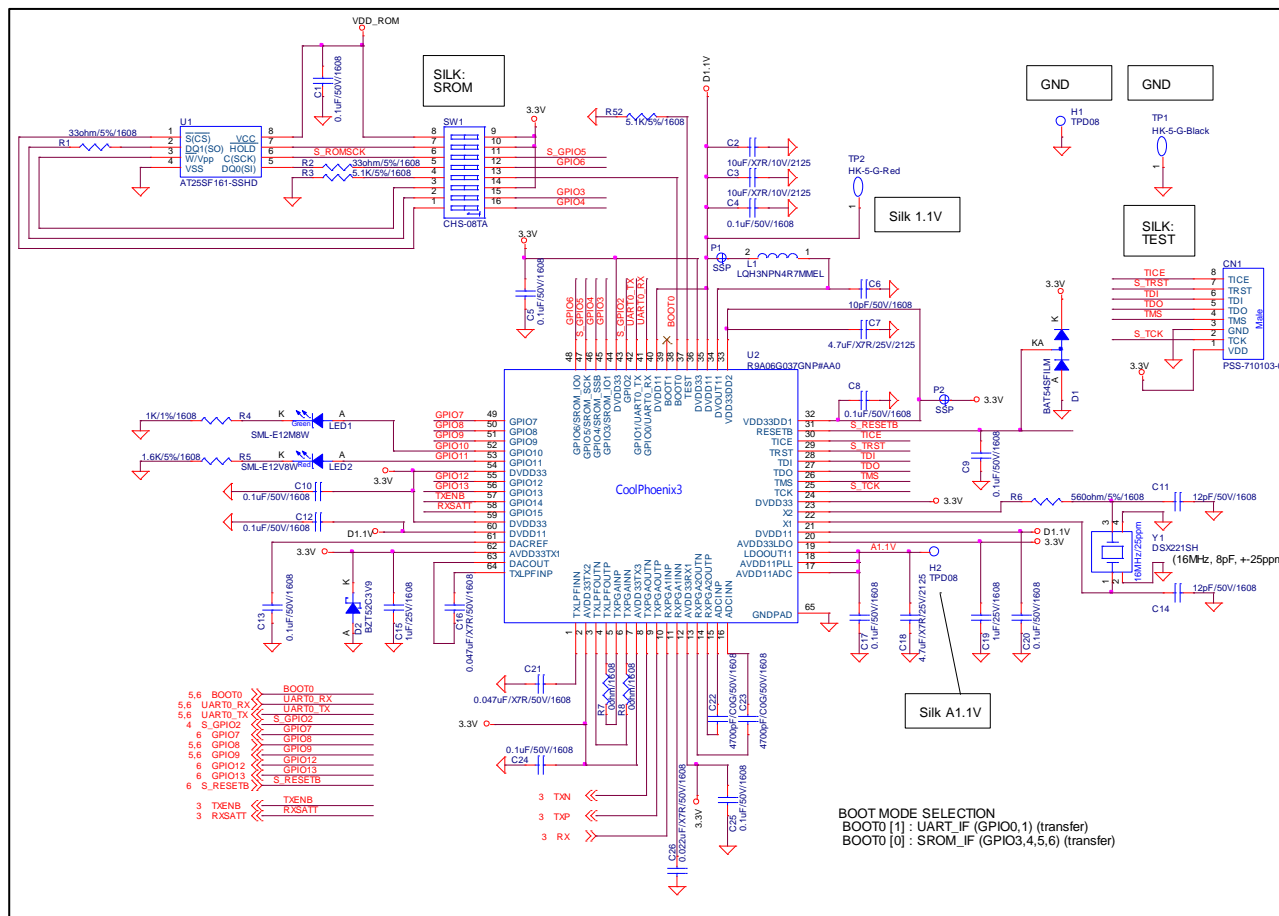

Figure 6-1 AC-PLC board (R9A06G037 peripheral circuit)
- Section 6.1 shows an example of circuit design (Figure 6-1-Figure 6-8), and Section 6.2 shows an example of Bill of materials (Table 6.1-Table 6.5).